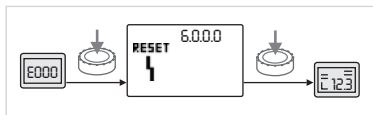

Fig. 65: Acknowledging error type E or F
- If type E or F errors occur, proceed as follows to acknowledge (Fig 65):